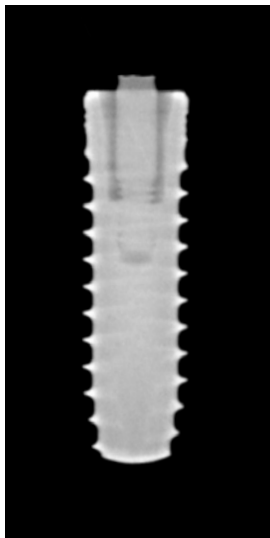
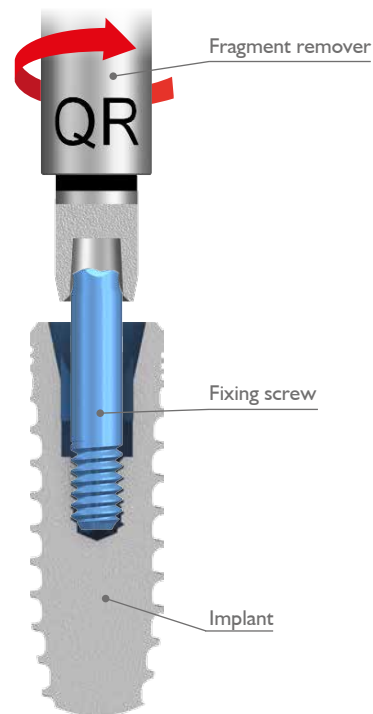

Fig. 1: BioniQ system – X-ray of a screw with a break under its head.
Fig. 2: BioniQ system – The fixing screw fragment is unscrewed using the fragment remover.
If the screw breaks under the head (Fig. 1), the fixing screw fragment can be unscrewed from the implant **counter clockwise** using the fragment remover (E) (Fig. 2).